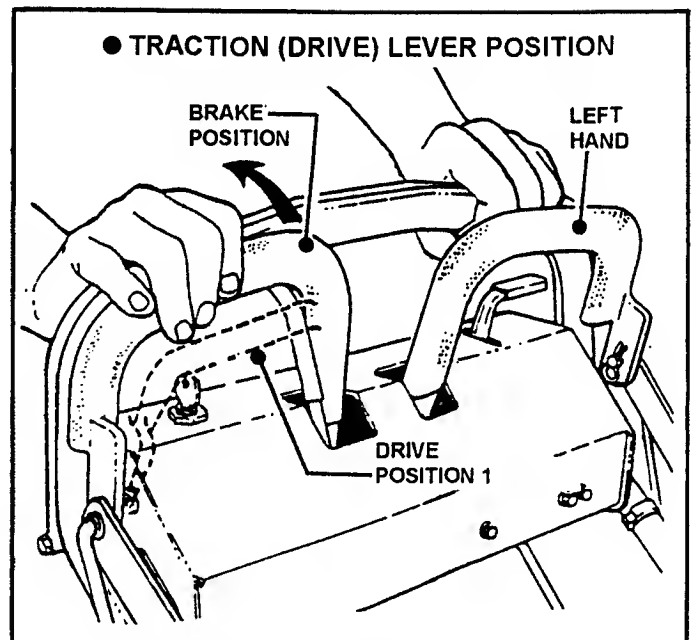

FIGURE 18
2. Hold right Traction Lever in intermediate position. Refer to Figures 18 & 19 to disengage right wheel drive and apply brake lightly!
2. Hold right Traction Lever in Brake position. Refer to Figures 18 & 19 to disengage right wheel drive and apply brake hard!